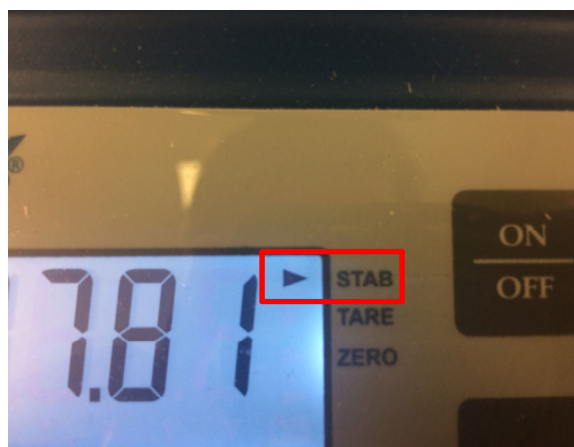

Figure 5: Stabilization indicator
- Add chemical sample to the weigh boat using a clean scoopula. Add small amounts to achieve the target weight. Wait a few seconds for the stabilization indicator in the top right corner of display to appear before adding more sample, shown in figure 5. Never put excess sample back into stock chemical containers.